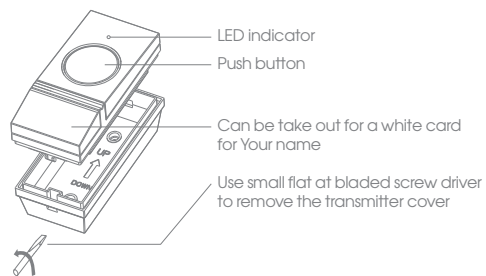
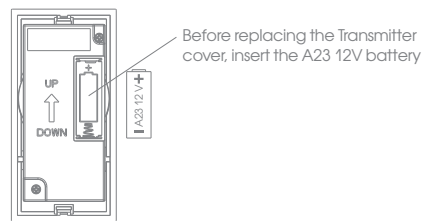

Fig. 1
Fig. 2
- To open the Transmitter, slide a screwdriver in the top slot, apply a slight pressure and take off the base of the button (Fig. 1). Insert the one A23 12 V battery respecting the polarity specified inside the housing (Fig. 2). Important: do not lose or stretch the sealing ring.